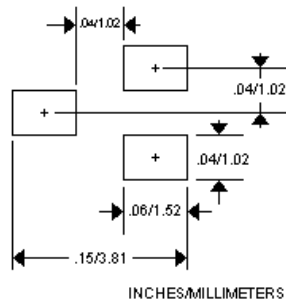

**FIGURE 1**
- SM03 thru SM36 have a Peak Pulse Power: 500 Watts (8/20 usec, Figure 1)